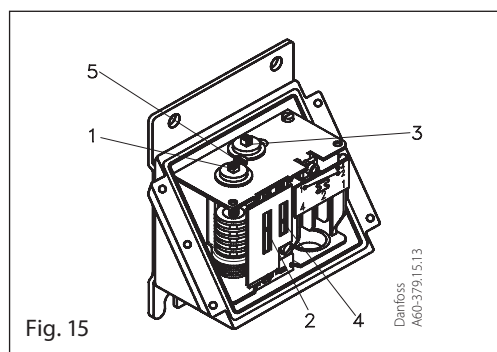

Fig. 15
When the thermostat cover is removed, and the locking screw (5, fig. 15) is loosened, the range can be set with the spindle (1) while at the same time the scale (2) is being read.